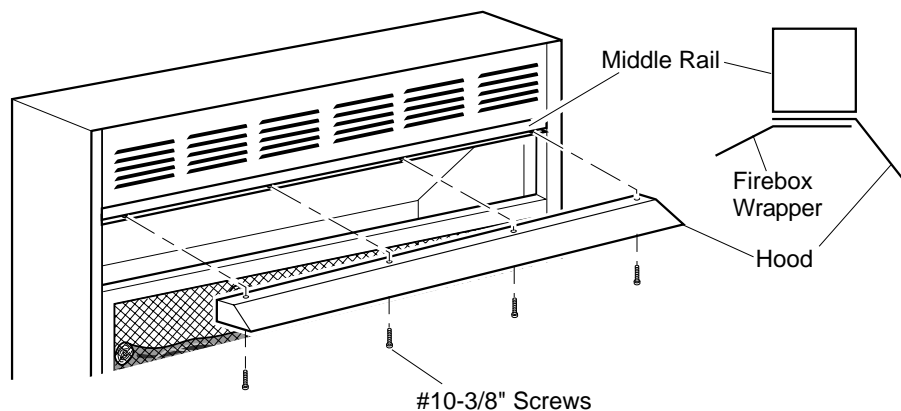

Figure 3 - Assembling Hood
2. Remove two 1³/₄" screws from underneath middle rail (see Figure 3).
3. Slip top of hood between middle rail and top of firebox wrapper (see Figure 3).
4. Reinstall two 1³/₄" screws removed in step 2. Make sure screw pass through hood and middle rail and attach into upper louver assembly (see Figure 3).
5. Attach four #10-3/8" hood screws as shown in Figure 3.